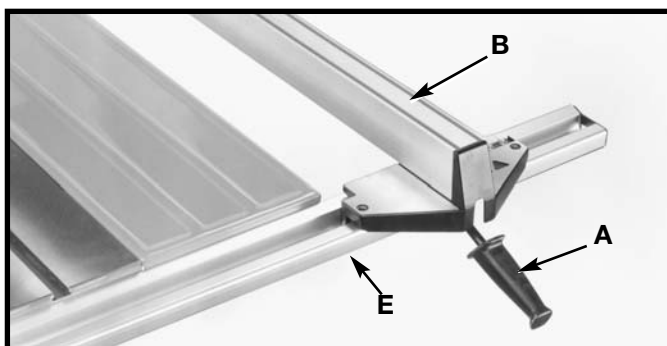

Fig. 50
2. Lower the front of rip fence (B) Fig. 50, onto the front guide rail (E).
3. Lock the rip fence (B) Fig. 50, on the guide rails by pushing down handle (A). **NOTE:** Use minimal force and stop pushing down when the handle is sloping at approximately 45 degrees.